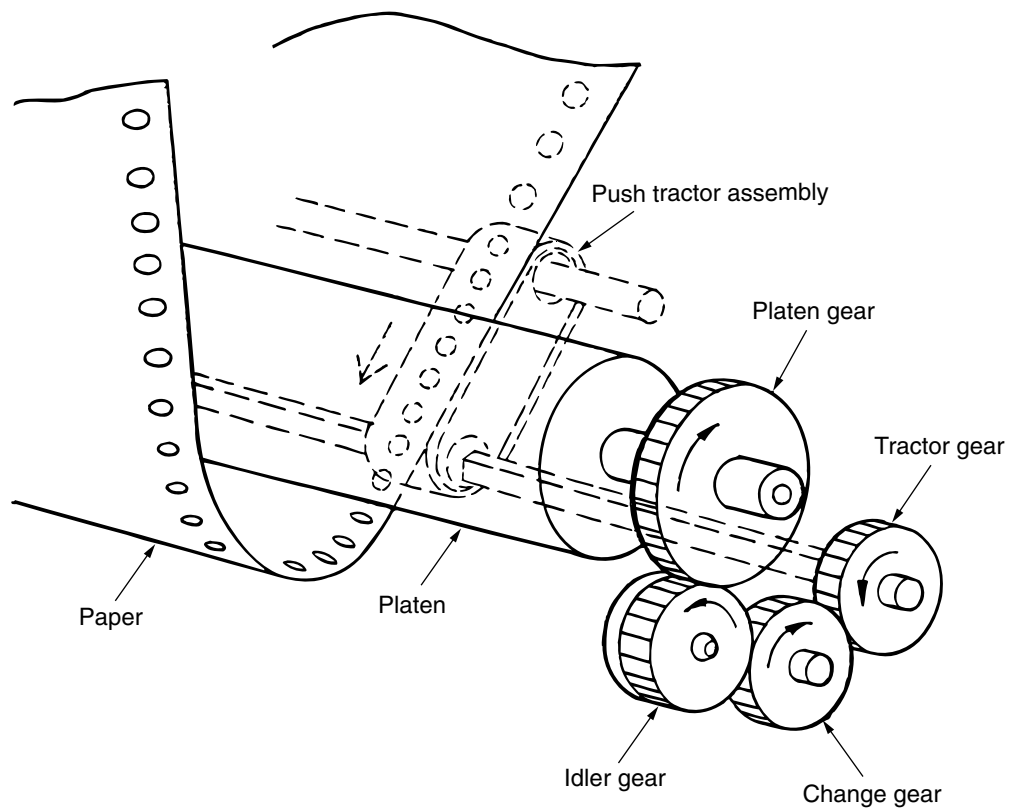

Figure 2-8 Paper feed operation of continuous paper
(2) Continuous paper feed operation (See Figure 2-8.)